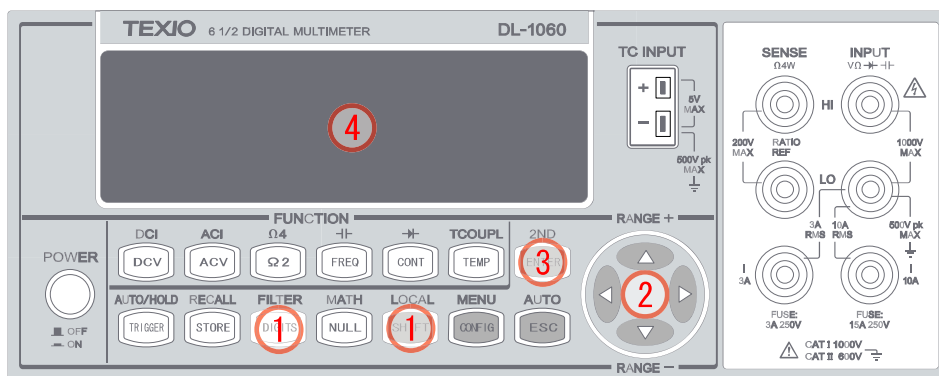

Figure 3-3
1. Press SHIFT+DIGITS buttons to switch to the digital filter function as shown in **Figure 3-3**.